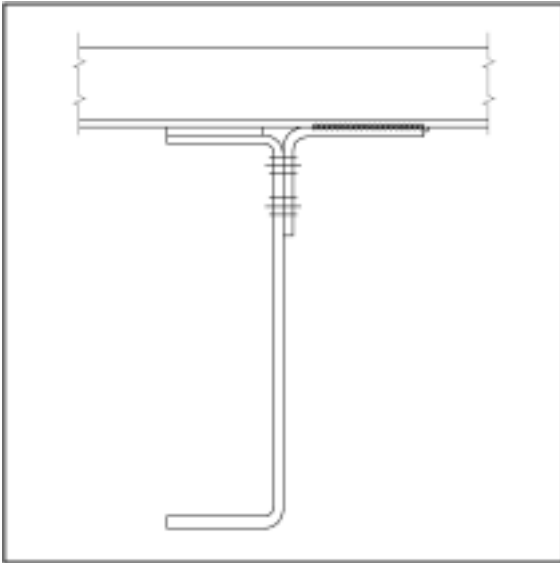

Figure 2—Floor Bracket Bolts Part Number 1139559
2. After 2000 miles, tighten quarterly to 70 to 70 foot-pounds. **Figure 2—Floor Bracket Bolts Part Number 1139559 IHC/Ford.**